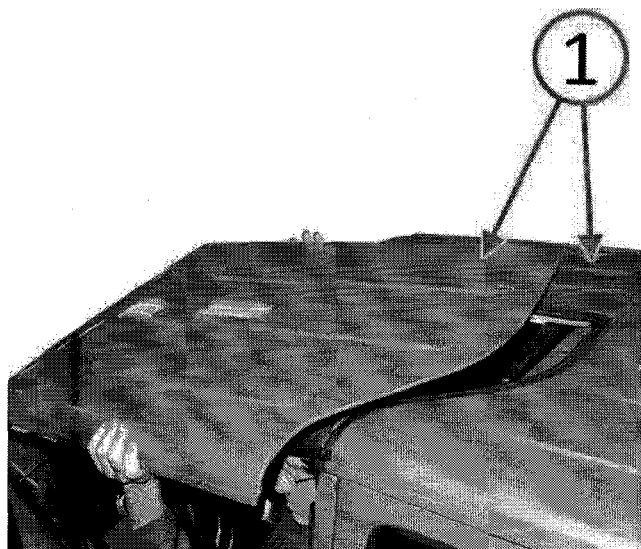

Fig. 3 Remove Both Freedom Top Panels
2. Remove both Freedom Top™ panels (Fig. 3). Refer to the detailed service procedures available in DealerCONNECT> TechCONNECT under: Service Info> 23 - Body/Removable Top, Hard/Removal.